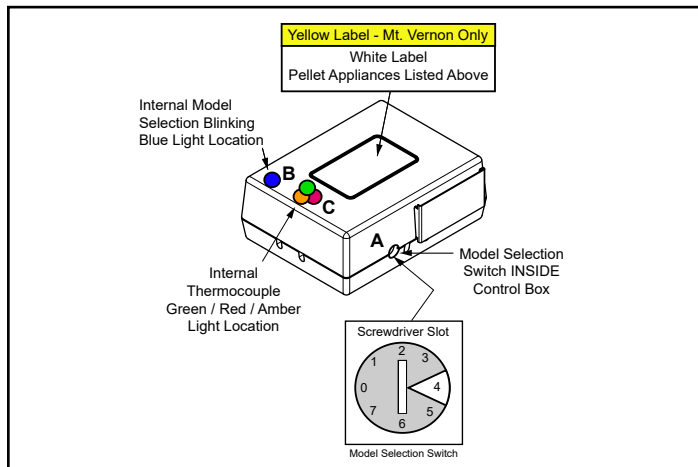

Figure 1
3. **Confirm selection with blinking light** - After installing the control box you will need to confirm the model selection by observing the blue blinking light (**Figure 1**) and verify that it is blinking the correct amount of times for that setting; use **Table 3** and **Table 4** below.
Model Selection Switch is shown with the cover off. Insert flat head screwdriver and rotate cover to expose desired setting number (**Figure 1**).
Previously there were 2 thermocouple lights; green and red, and they would turn on independently. This control box only has 1 light and it functions the same way as the 2 lights (**Figure 1 on page 2**). The internal light will turn green when the thermocouple has reached 200°F and the same light will turn red when it reaches 600°F.
The thermocouple light will turn an amber color (**Figure 1 on page 2**) and flash 3 times, pauses and then repeats this process. This indicates there is a problem with the thermocouple. Please check the circuit and replace the thermocouple if necessary.